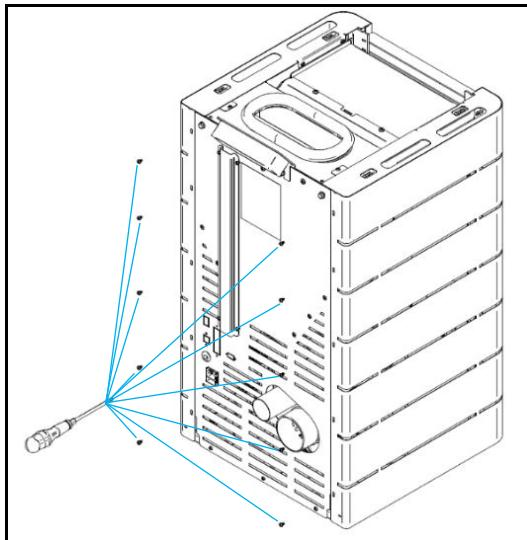

Figure 23 - Attaching the side casings
- e) Secure the side casings to the back of the unit using 10 screws from the kit, as shown in Figure 23.